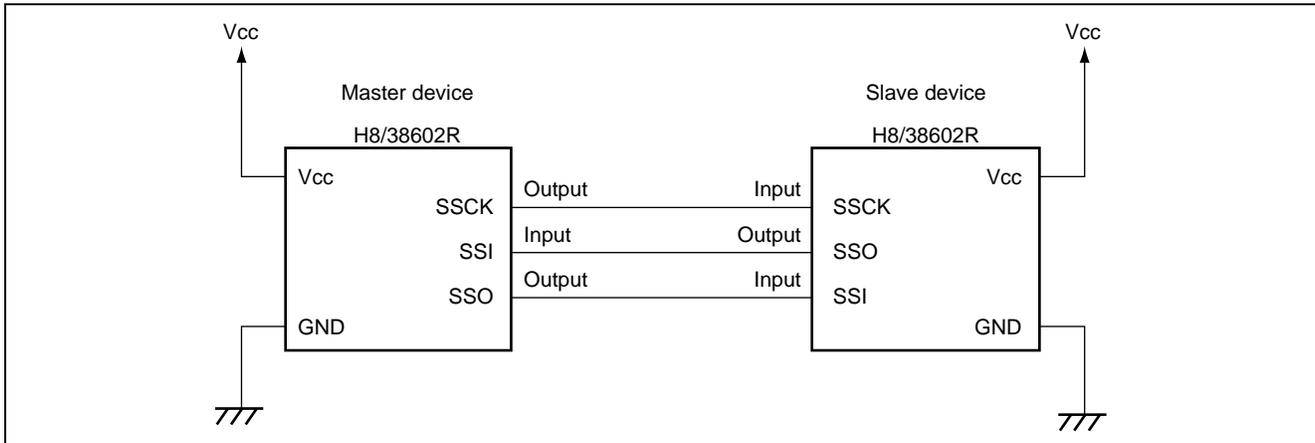

Figure 1 Connections in Clocked Synchronous Communication Mode of SSU
- As shown in figure 1, the H8/38602R performs communication by the SSU in clocked synchronous communication mode.